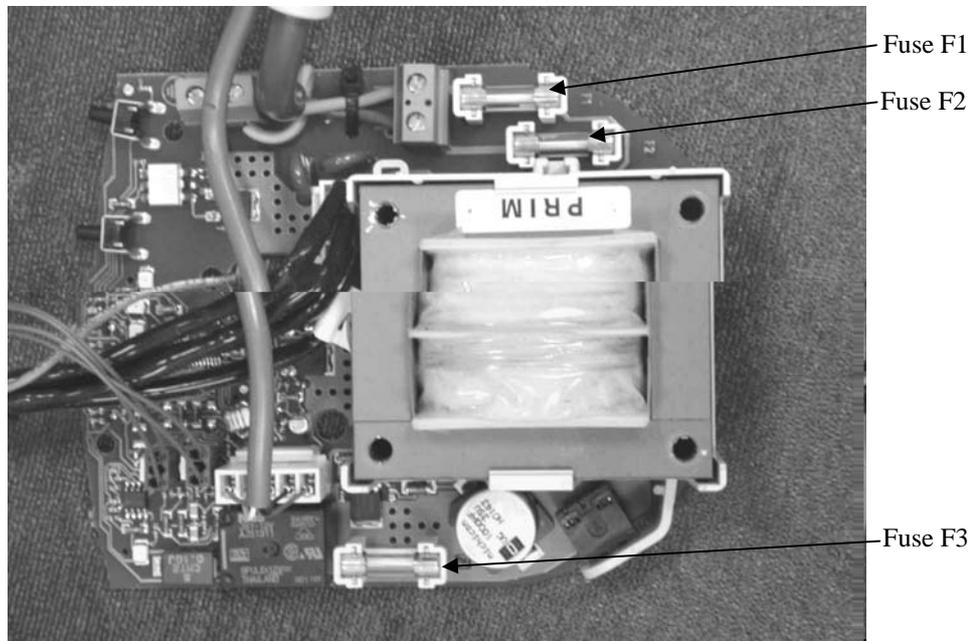

Figure 6.3: Fuse Location
2. The fuses can now be accessed. Refer to Figure 6.3 for the location of the fuses and Table 4 for replacement fuses.